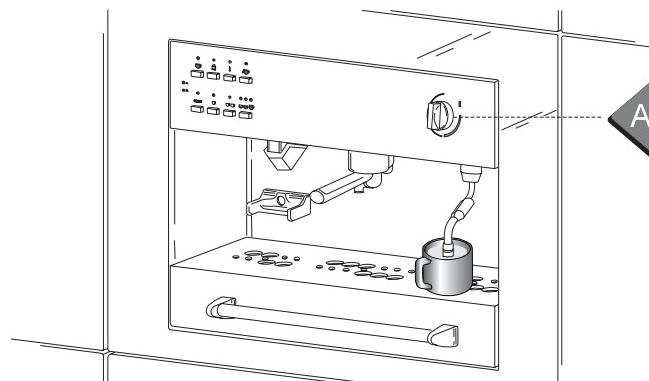

Fig. 7
- Turn knob A (Fig. 7) to the left to obtain hot water.
- Before placing the cup or container under the distributor, turn the knob "A" (fig.7) to the left in order to let the remaining water in the pipes coming out.
- Turn knob "A" (Fig. 7) to the left to obtain steam.